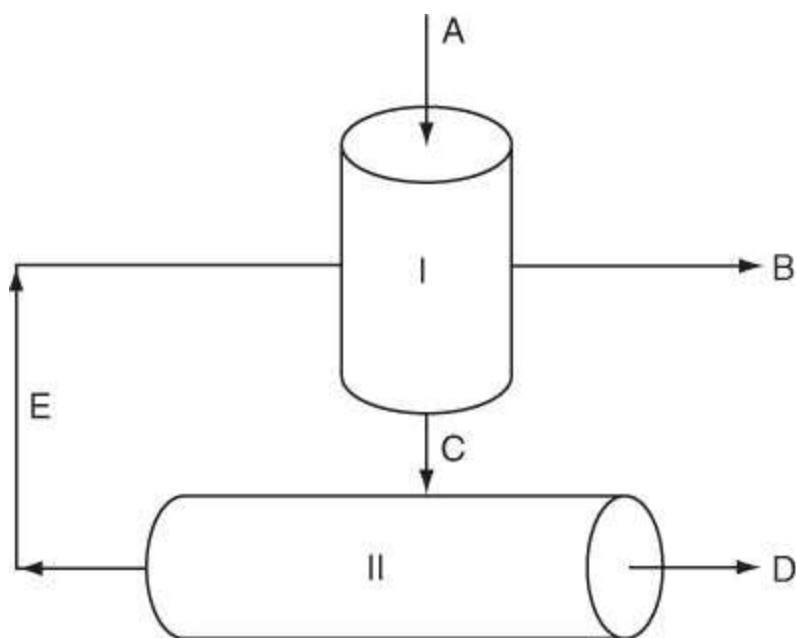

Figure P6.3.4
**6.3.4. In the process shown in Figure P6.3.4, unit I is a liquid-liquid solvent extractor and unit II is the solvent recovery system. For the purposes of designing the size of the pipes for streams C and D, the designer obtained from the given data values of C = 9630 lb/hr and D = 1510 lb/hr. Are these values correct? Be sure to show all details of your calculations or explain if you do not use calculations.